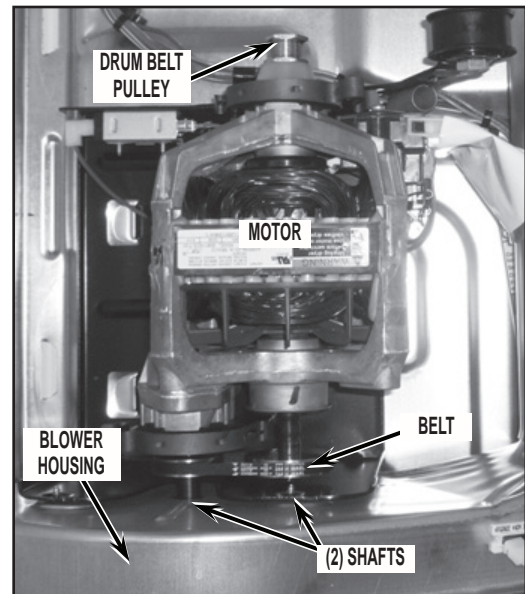

FIGURE 27
**IMPORTANT:** Dryers with the long vent feature, can NOT be vented out to the left side by the use of this kit. Dryers that can NOT be vented out to the left side can be identified by the configuration in *Figure 27*. Note the (2) shafts on the motor and the belt used between the shafts.